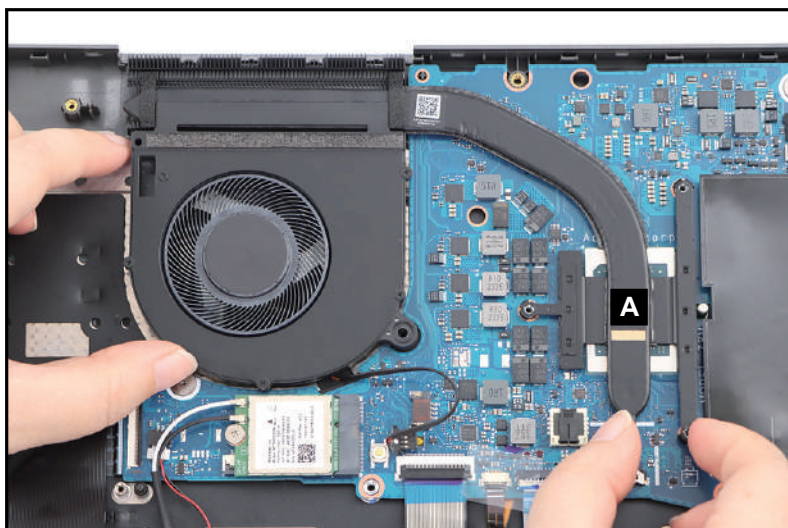

Figure 3-139. Replacing the Thermal Module
3. Place the thermal module (A) on the mainboard and top assembly as shown in Figure 3-139.